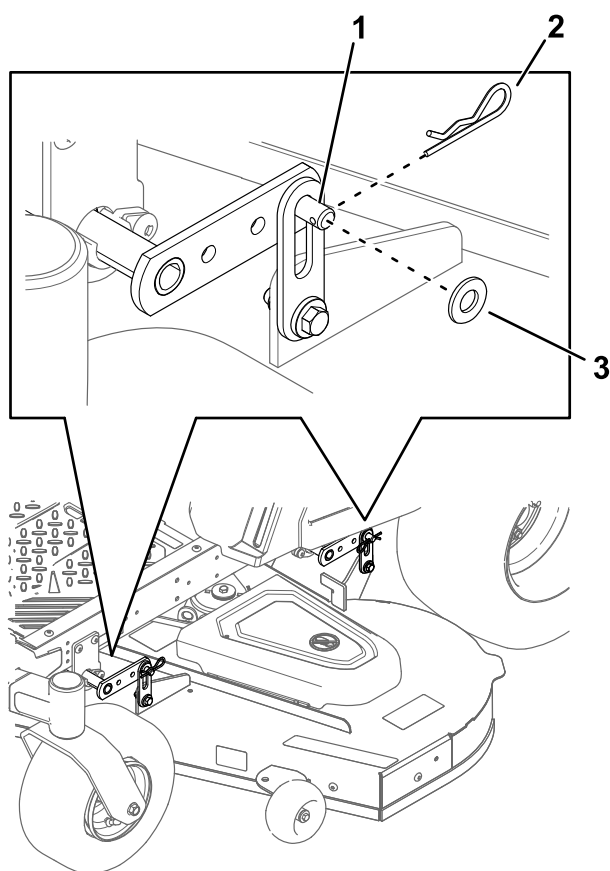

Figure 61
5. At all 4 corners of the deck, remove the hairpin cotter and washer from the deck pin (Figure 61).
6. Lift the rear of the mower deck and attach the rear deck hangers to the rear deck pins (Figure 61).
7. Attach the front deck hangers to the front deck pins (Figure 61).
8. Secure the deck pins with the hairpin cotters and washers removed previously (Figure 61).